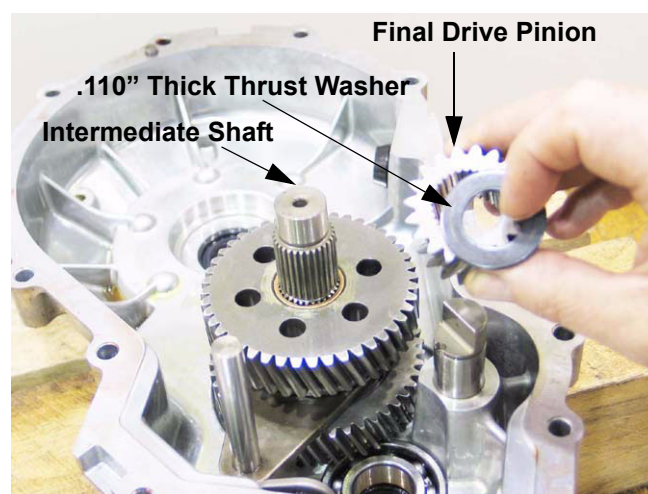

Figure 12.5
- 12.5. Lift the thick thrust washer (.110" thick) and final drive pinion off of the intermediate shaft. Set gears aside in a clean safe spot, maintaining sequence (take note of position and orientation). See Figure 12.5.